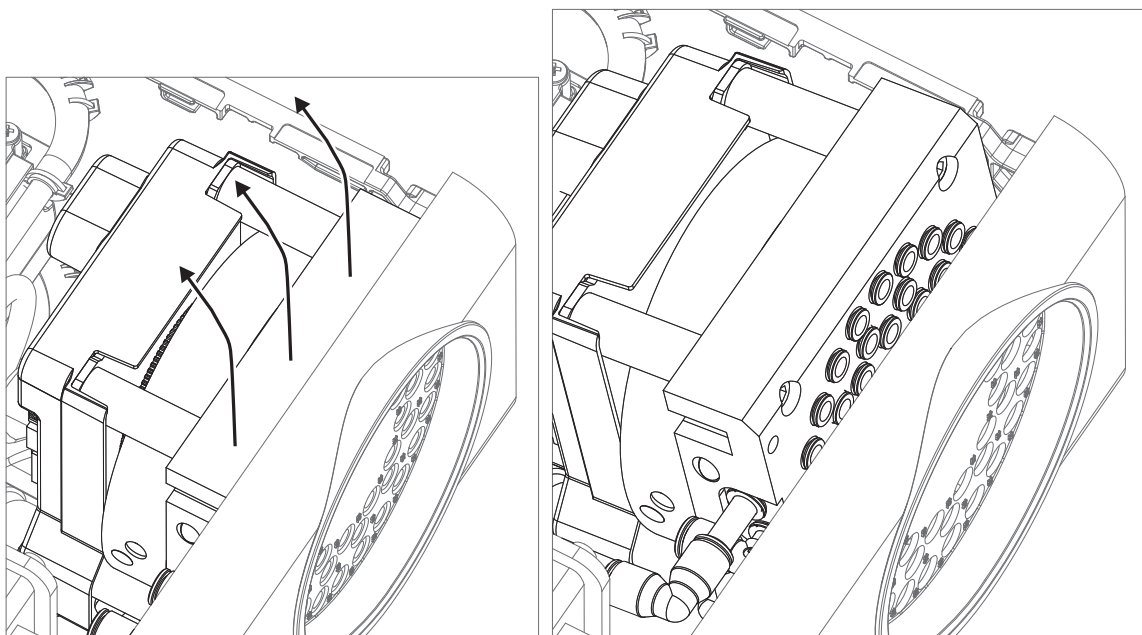

Figure 7-23: Remove rotary valve
7. Tilt back the rotary valve and lift it out of the detector (Figure 7-23).